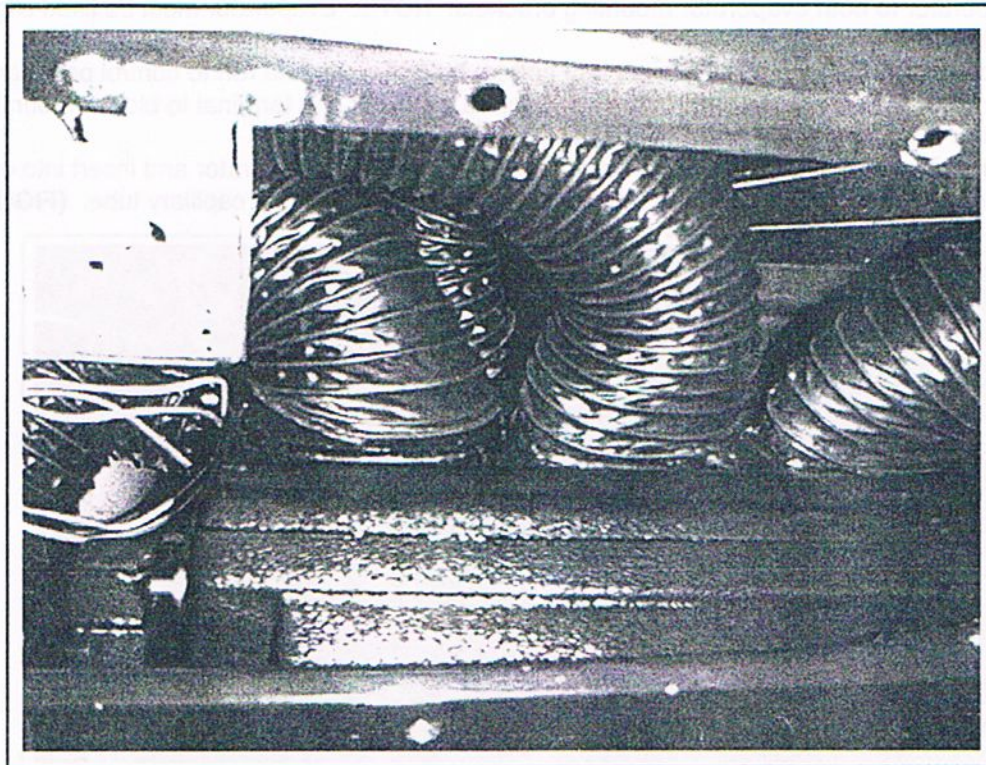

FIGURE 13
27. Secure 2" defrost duct hoses and 2-1/2" louver duct hoses to the evaporator. **(FIGURE 13)**